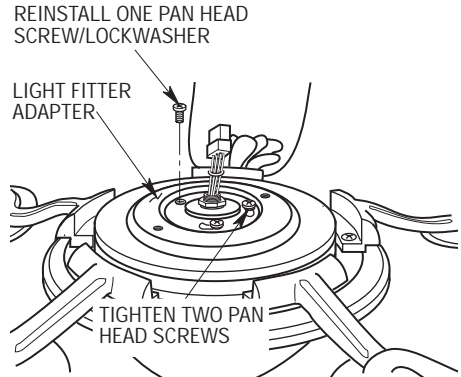

Figure 3
- 5. Position the light fitter adapter on the motor flange so that the two screws mate with the two keyhole slots in the light fitter adapter (Figure 3).
- 6. Turn the light fitter adapter clockwise and tighten both screws (Figure 3). Reinstall the other pan head screw/lockwasher (previously removed) in the remaining hole in the light fitter adapter.